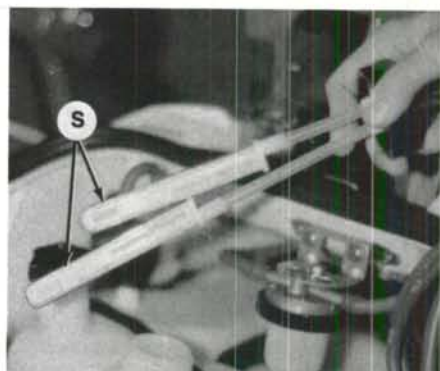

Fig. JS3-11—View identifies fuel tank strainers (S). Reserve "RES" is longest pickup line.
(P—Fig. JS3-10). On JS650SX models, an inline sediment bowl (I) is used to prevent entrance of water into fuel tank. Occasionally or if water is noted, unscrew ring nut (N) and withdraw cup (C) with sealing ring from base. Clean cup with a suitable cleaning solution. Renew sealing ring and securely tighten nut (N) during installation of cup (C). On all models, after every 25 hours of operation or more frequent if needed, fuel tank strainers (S—Fig. JS3-11)
should be cleaned. Unscrew ring nut (R—Fig. JS3-10) and withdraw pickup assembly (P). Clean strainers (S—Fig. JS3-11) with a suitable cleaning solution and a soft-bristled brush if needed. Renew sealing ring and securely tighten nut (R—Fig. JS3-10) during installation of pickup assembly (P).